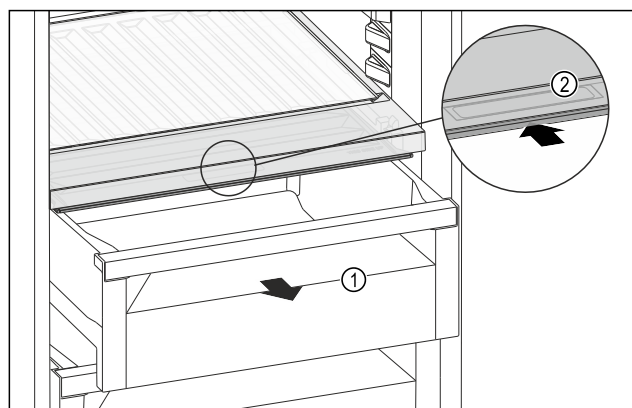

Fig. 220
- Pull out the drawer Fig. 220 (1).
- Grasp the recessed grip Fig. 220 (2) on the compartment lid and push the compartment lid backwards at the same time.